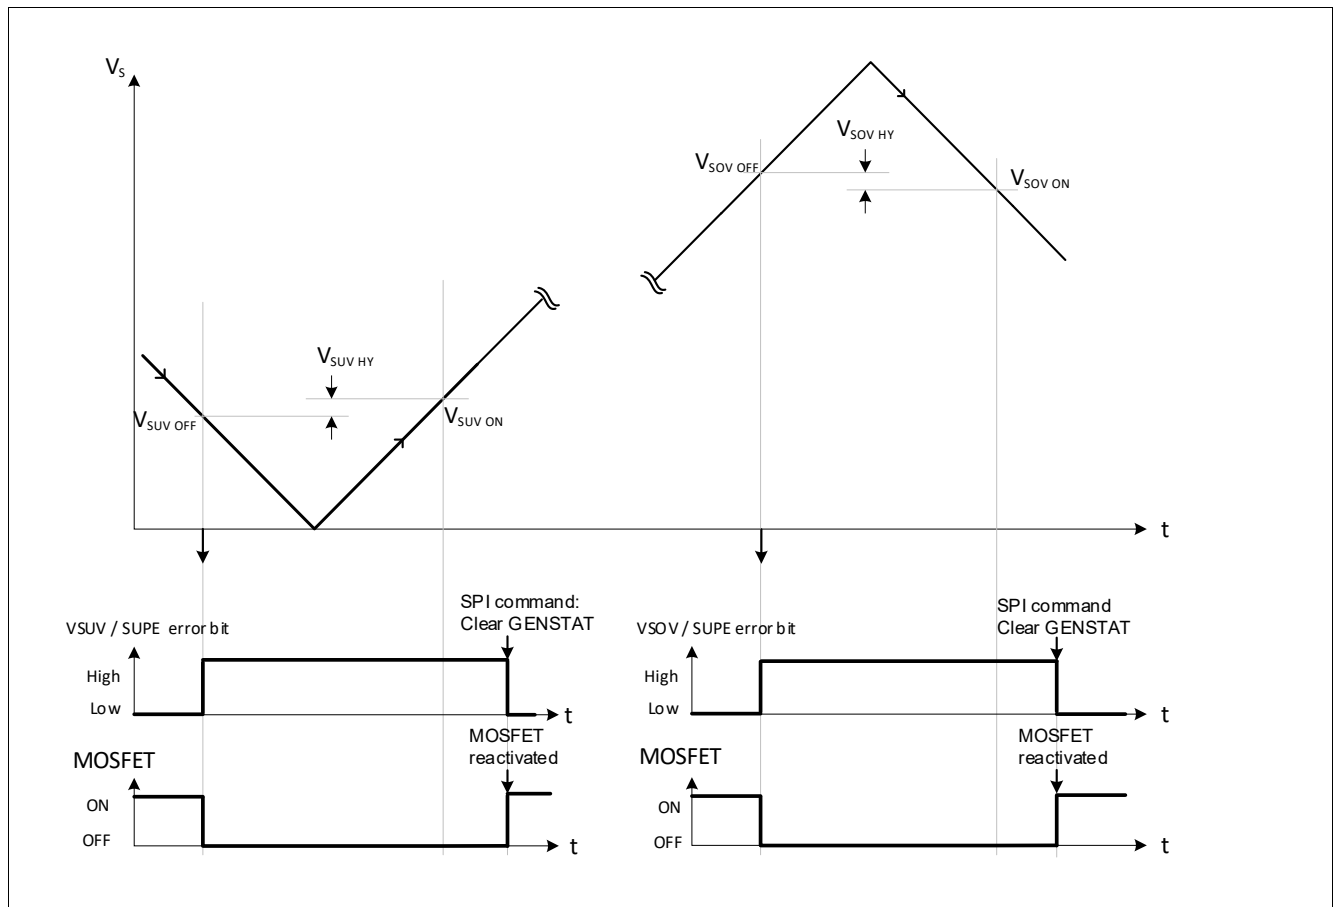

Figure 37 Output behavior during Over- and Undervoltage V_S condition
- $V_S > V_{SUV\ ON}$ (See Figure 37).
- $V_S < V_{SOV\ ON}$ (See Figure 37).